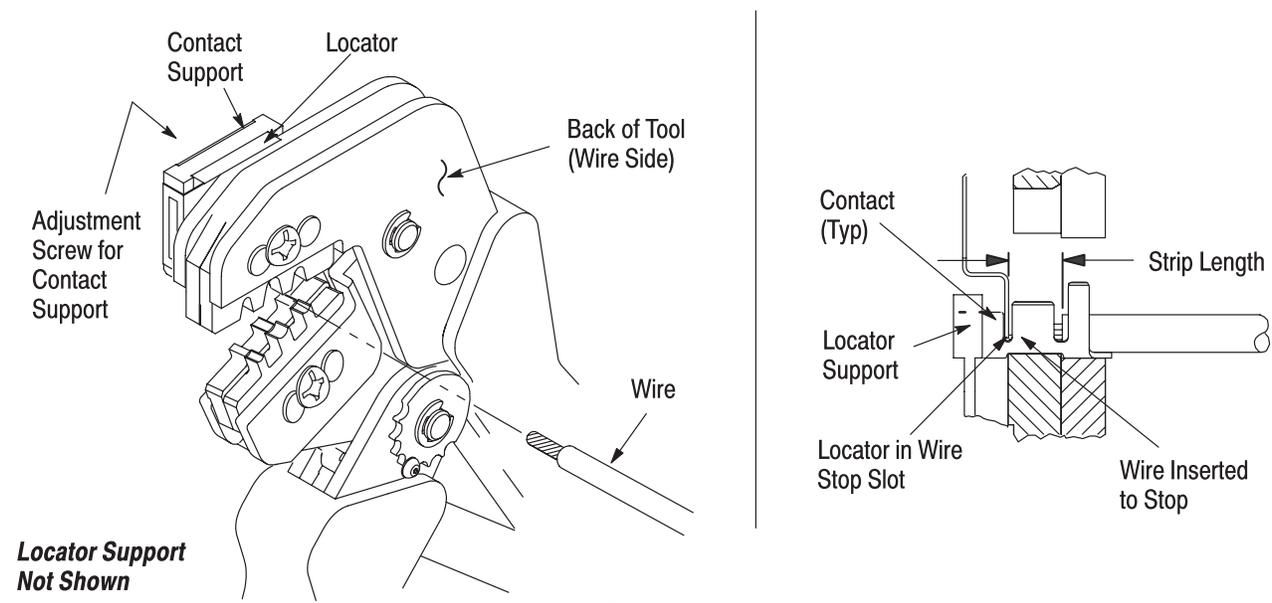

Figure 3
**4. CONTACT SUPPORT ADJUSTMENT** (Figure 3)
Refer to the table in Figure 1 and select wire of the specified size and insulation diameter. Strip the wire to the length indicated in Figure 1, taking care not to nick or cut wire strands. Select an applicable contact and identify the appropriate crimp section according to the wire size markings on the tool. Refer to Figure 3 and proceed as follows:
3. Place contact into the locator support and position the contact so that the mating end of the contact is on the locator side of the tool, and so that the open “U” of the wire and insulation barrels face the top of the tool. Carefully close the tool, positioning the contact so that the movable locator drops into the slot in the contact. Refer to Figure 3.
6. Insert stripped wire into contact insulation and wire barrels until it is butted against the wire stop, as shown in Figure 3.
**NOTE** The crimped contact may stick in the crimping area, but the contact can be easily removed by pushing downward on the top of the locator (see Figure 3).